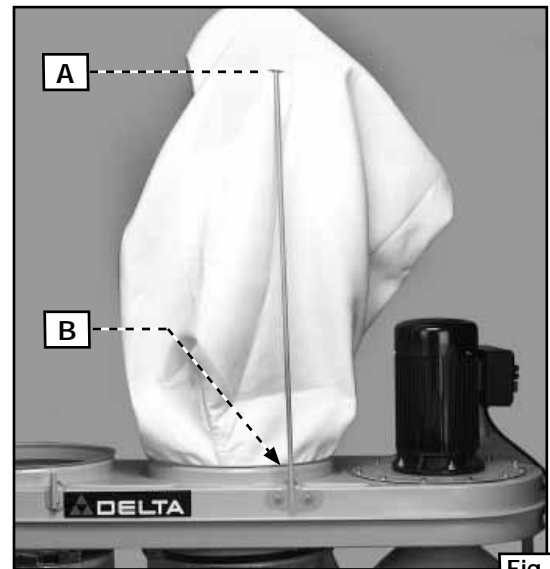

Fig. 13
5. Insert the rod into the pocket on the filter bag (A) Fig. 13.
6. Insert the rod in the hole in the bracket (B).